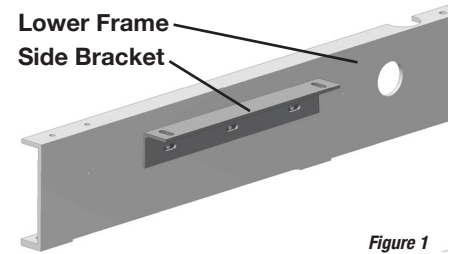

Figure 1
1. Attach the Side Brackets (SCTST802) into the saw frame using the 130GG Hex Bolts, 132H Washers, and 171G Nuts included in the bag labeled “Tube Sheet Support Table Hardware”. The Side Brackets should be installed so that they resemble an upside down “L” shape with the 3/4” slots exposed at the top for install of the table onto the brackets (Figure 1).